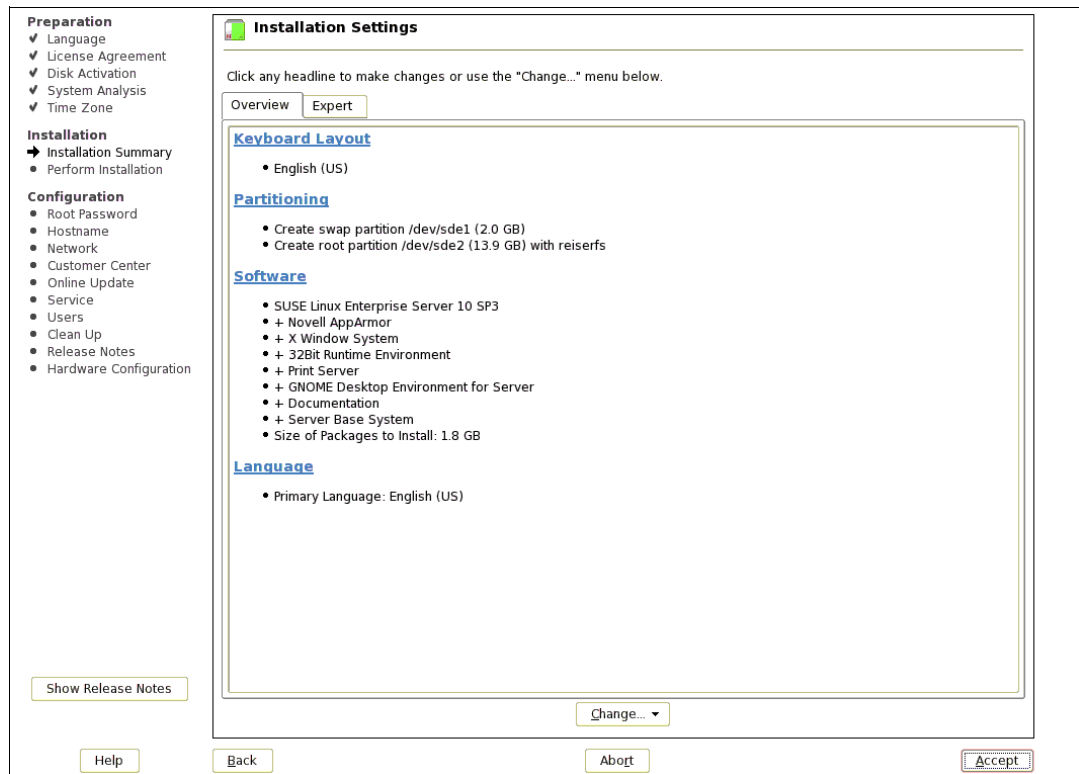

Figure 6-56 Installation Settings
7. The next window shows the clock and zone information. After that comes the Installation Settings window. It gives an overview of the partitions where installation will be performed (Figure 6-56). You can change the installation settings at this stage. Click **Accept** after verifying the settings that you want.